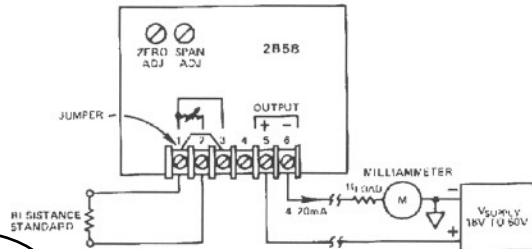

Figure 7. 2B58 Calibration Connections
1. Connect the transmitter as shown in Figure 7. Substitute a resistance standard for the RTD and use a load resistor as specified for the appropriate power supply voltage (e.g., 400 Ω for a +24 V).